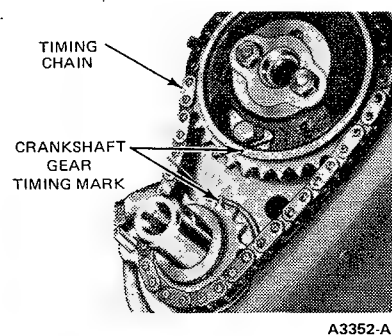

FIG. 33 Valve Timing Marks
2. Position the timing chain over the camshaft and crankshaft sprockets so that the timing marks are aligned when the sprocket is installed (Figure 33). Tighten the bolts to specification, then bend up the locking tabs.